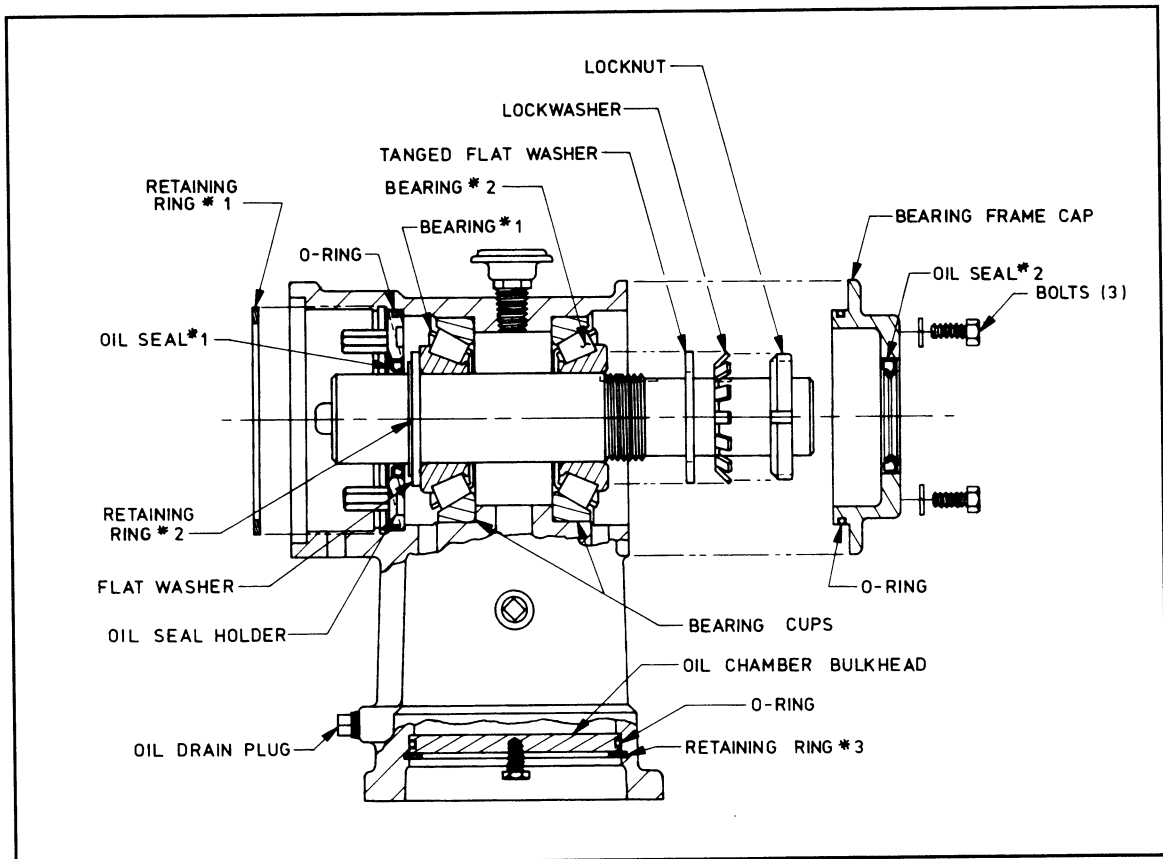
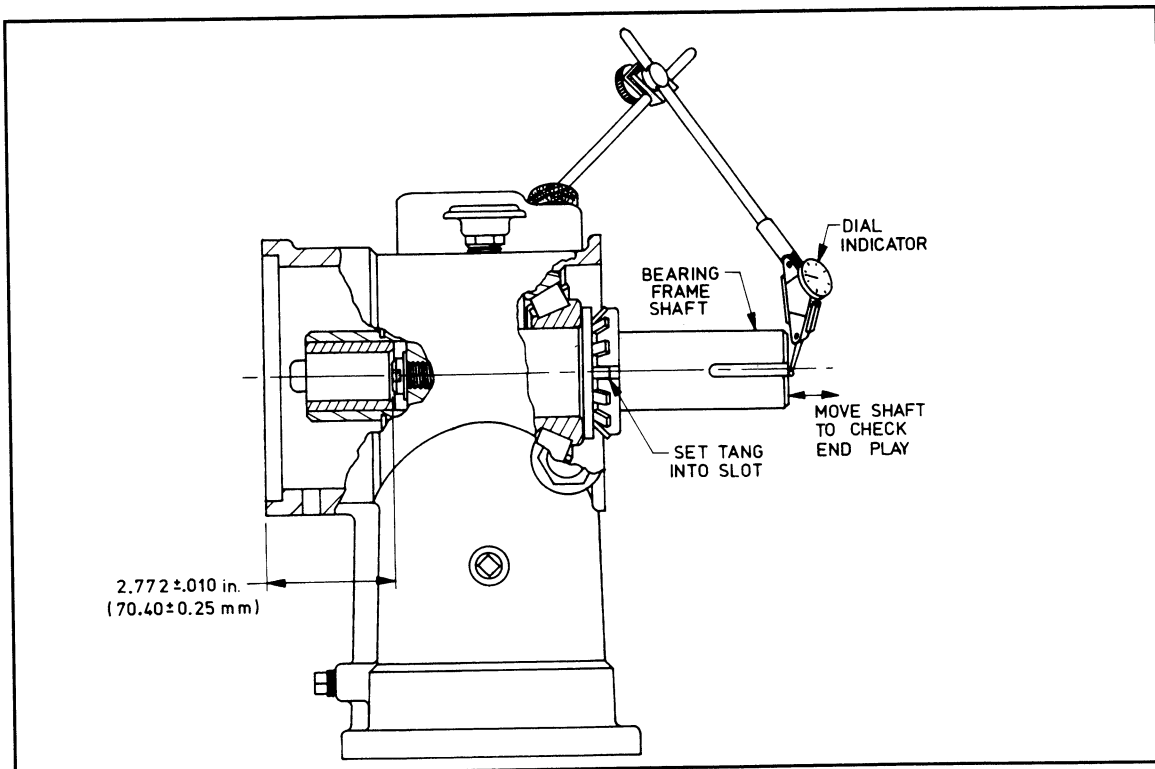

FIGURE 10 - BEARING FRAME OVERHAUL
FIGURE 11 - SETTING BEARING FRAME SHAFT END PLAY
6.5.1.3 Bearing frame overhaul. Refer to Figure 10 for the construction of type E-bearing frame.
2. Remove retaining ring #1 from the bearing frame as shown on Figure 10.
2. If removed, press a new bearing cone (#1, Figure 10) onto the shaft, holding the bearing square with the shaft while starting. Make sure the washer behind bearing cone #1 has been replaced. The correct setup may be checked by placing the shaft into the bearing frame and measuring the 2.772 inches \pm 0.010 inch (70.41 \pm 0.25 mm) recess (refer to Figure 11).
6. Check the end play of the shaft by pulling and pushing on the shaft. The end play should be 0.003-0.006 inch (0.08-0.15 mm) for direct-driven pumps, using a dial indicator (see Figure 11). For belt-driven pumps, the end play should be 0.003-0.005 inch (0.08-0.13 mm). End play of 0.006 inch (0.15 mm) or less is difficult to feel by hand. Readily noticeable play means further adjustment is necessary.
12. Reinstall the oil seal holder, oil seal, and retaining ring (Figure 10) making sure the seal and O-ring are lubricated with grease or oil.
Oil leaking around the bearing frame shaft means oil seal #2 (Figure 10) is leaking.
Oil leaking from the ports in the bearing frame near the liquid end indicates oil seal #1 (Figure 10) is leaking.
6.6.1 Replacement of Oil Seal #2, Figure 10
6.6.2 Replacement of Oil Seal #1, Figure 10
2. Remove retaining ring #1 shown in Figure 10.
3. Remove the oil seal holder (shown in Figure 10), which can be done as described in Section 6.5.1.3, Step 4, or as described here by making a simple fixture. Use two 5/16-18NC bolts and a flat plate (not provided) to bridge across the end of the bearing frame to pull out the seal holder. Drill two holes, 3/8-inch or 10-mm diameter, through the flat plate, spacing the holes 3.25 inch (82 mm) apart. Insert two 5/16-18NC bolts through the plate and turn them into the seal holder's two coupling nuts provided. (Select bolt length as needed to engage coupling nuts). Tighten the two bolts uniformly to pull the seal holder out straight.
Should the O-ring seal for the oil chamber bulkhead (refer to Figure 10) need replacement, remove the bulkhead.